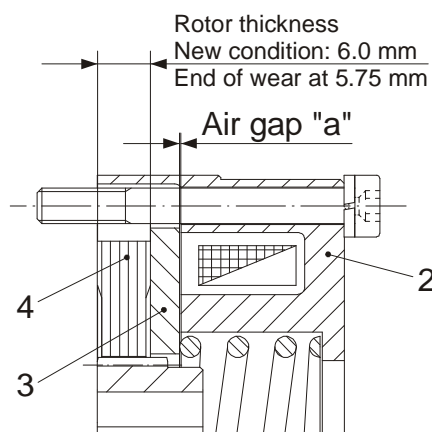

Fig. 3
At regular intervals (see Maintenance), the rotor (4) is dismantled and its breadth is measured. At a breadth of 5.75 mm, the rotor (4) must be replaced. In new condition, the rotor breadth is 6.0 mm, see Fig. 3.